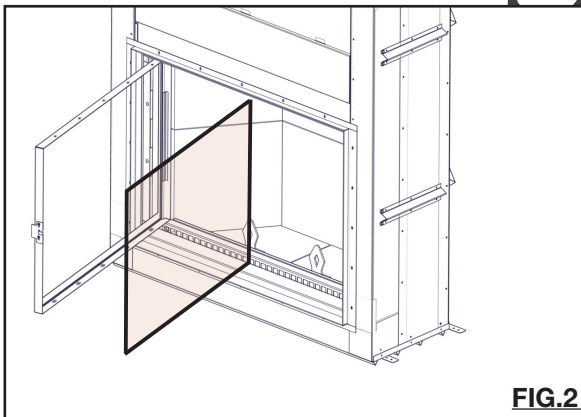

FIG.2
- D. Remove glass from door frame. **(FIG. 2)**